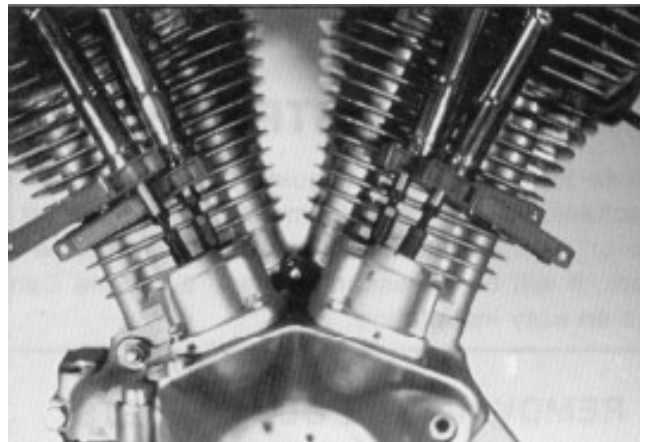

Fig. 4
1. Place clips above hexes on pushrods to hold covers up (Fig. 4). Watching tappets, rotate engine until both front tappets are in down position with the front piston on top of the compression stroke.